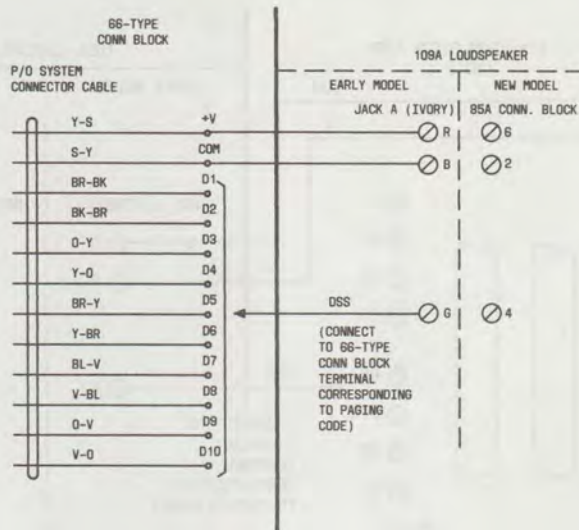

Fig. 27—Paging Connections Using 66-Type Connecting Block
primary, it can be connected via a 91B block cut into the system cabling (Fig. 26) or a 66-type block (Fig. 27). A 91A connecting block (MD) removed from an older installation may also be used for paging connections (Fig. 28).